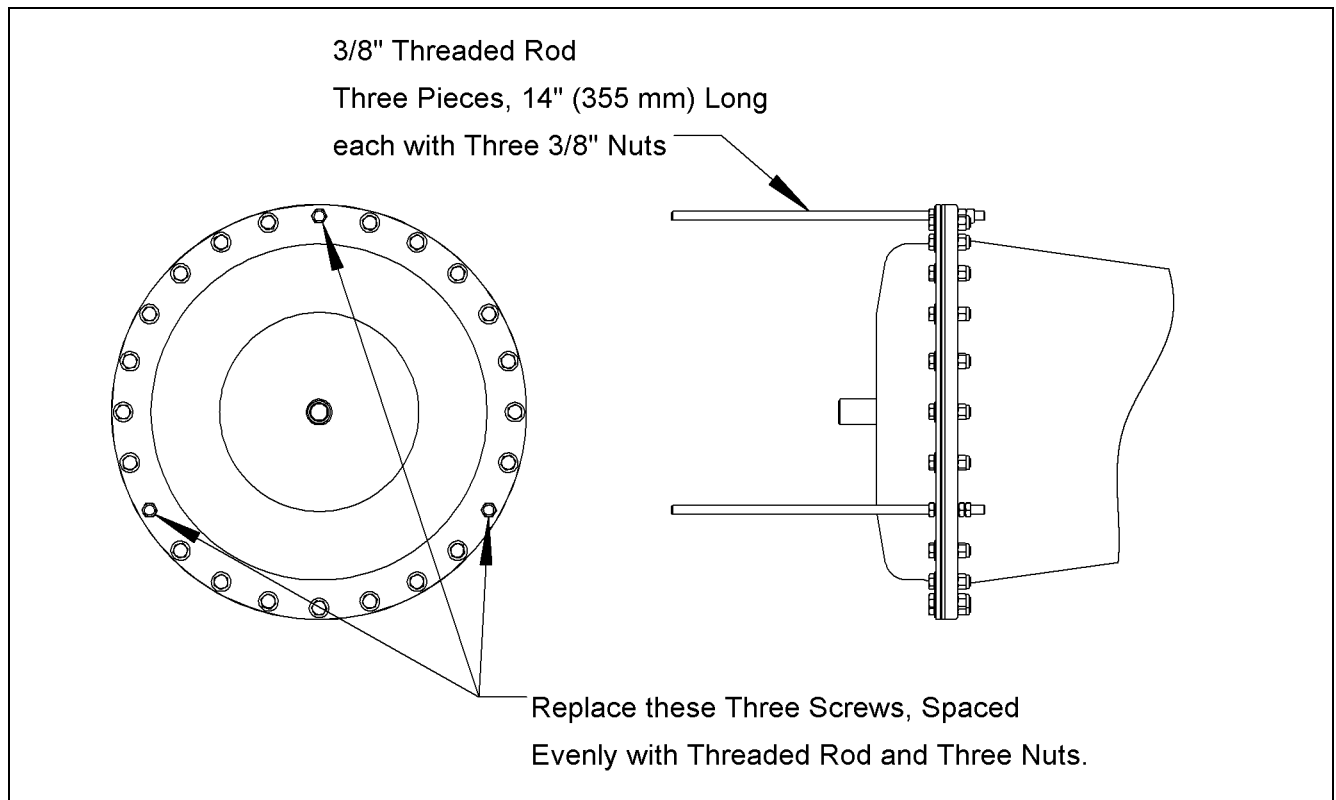

Figure 3 — Stud Requirements For Diaphragm Cover Removal
Remove three screws (B2), nuts (B3), and washers (B38) from the diaphragm cover (B1). The three screws removed must be equally spaced as shown in Figure 3.
7. Obtain three 3/8" diameter threaded rods, each at least 14" (355 mm) long, and nine 3/8" nuts. As shown in Figure 3, assemble one rod and three nuts in each of the holes from which the screws were removed in the previous step. Jam the double nuts together by tightening to 26 ± 3 foot pounds (35 ± 4 Nm); tighten the single nuts finger tight against the cover.